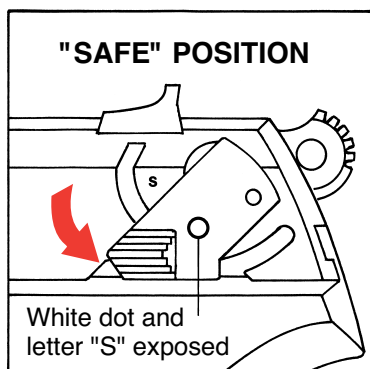

FIGURE 1
The pistol can and should be loaded and unloaded with the safety engaged in its “safe” position (lever fully down, white dot and the letter “S” exposed). **The safety should be in its “safe” position at all times except when the user is deliberately positioned to fire at a selected target.** See Figures 1 and 2, below, which illustrate the two positions of the safety.
2. **Move either the right- or left-hand safety lever fully downward to its “safe” position so that the letter “S” and the white dot are fully exposed.** (See Figures 1 and 2 on page 10).
The trigger is inoperable when the safety is fully engaged in its “safe” position (lever fully down, white dot and letter “S” exposed; see Figure 1 on page 10).
7. If the pistol is not to be fired immediately, the safety should remain in its “safe” position (see Figure 1, p. 10).
1. The muzzle of the pistol must be pointing in a safe direction at all times, and fingers should be outside of the trigger guard. Put the safety in its “safe” position (see Figure 1 on page 10) by rotating the safety fully downward until the letter “S” is fully exposed and the white dot shows. The safety can be engaged whether the pistol is cocked or not.